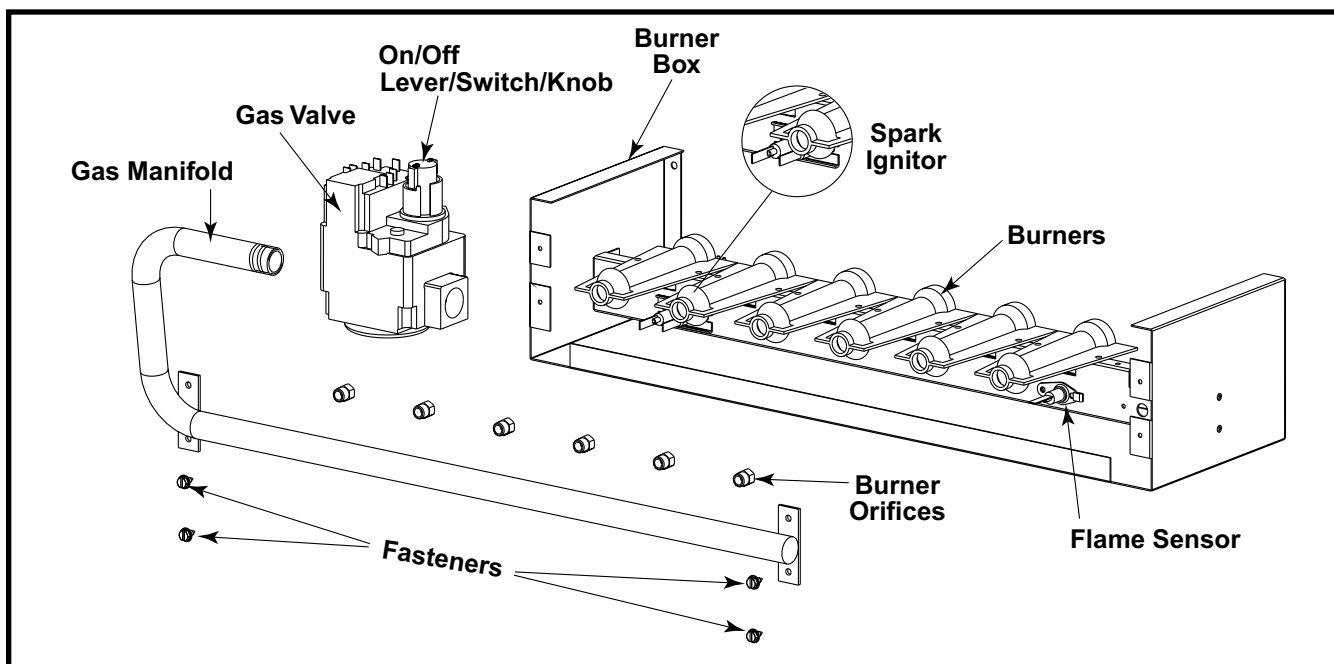

Figure 1. Typical Burner Box for Light Commercial Units
2. Disconnect the flame sensor wire at the burner box. See Figure 1 (page 3).